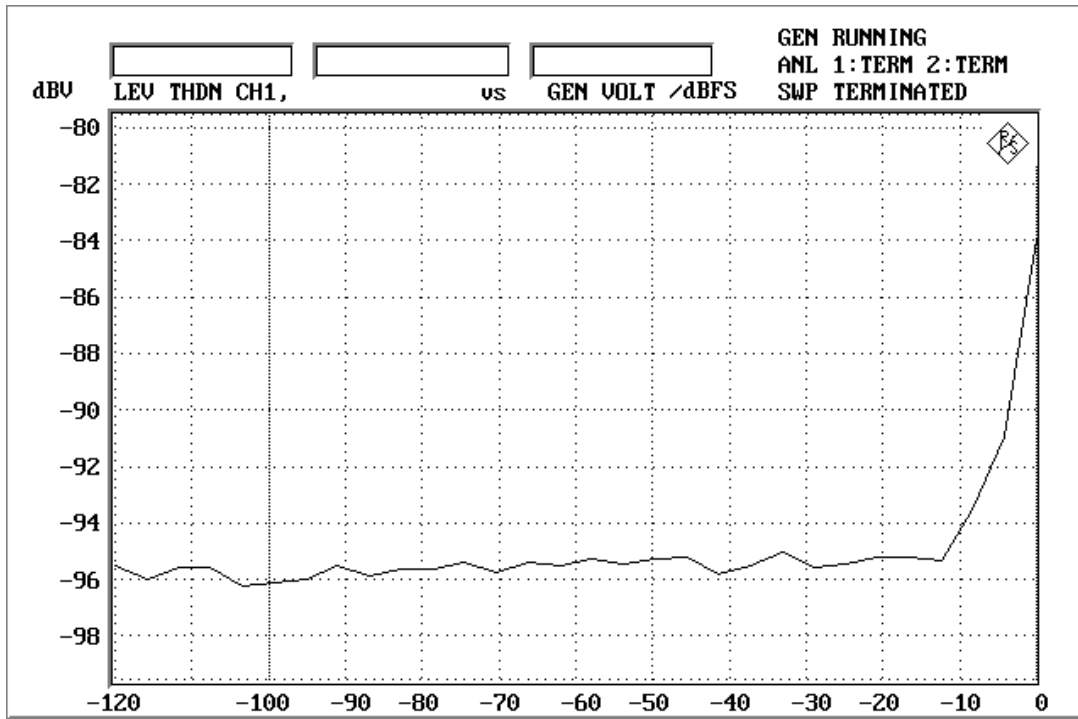

Figure 1-2-1. THD+N vs. Input level
- Figure 1-2-1. THD+N vs. Input level